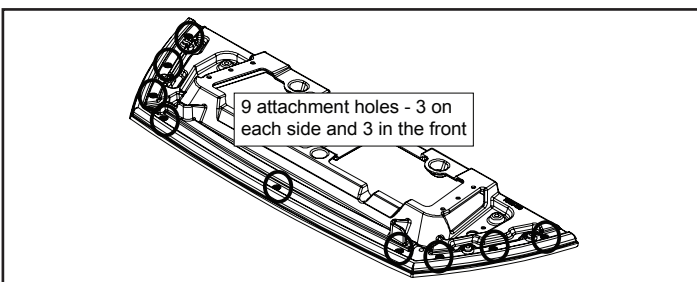

Figure 19.2
8. Open the door and attach the hearth support to the insert. There are 9 attachment holes. **Figure 19.2 on pg. 19**